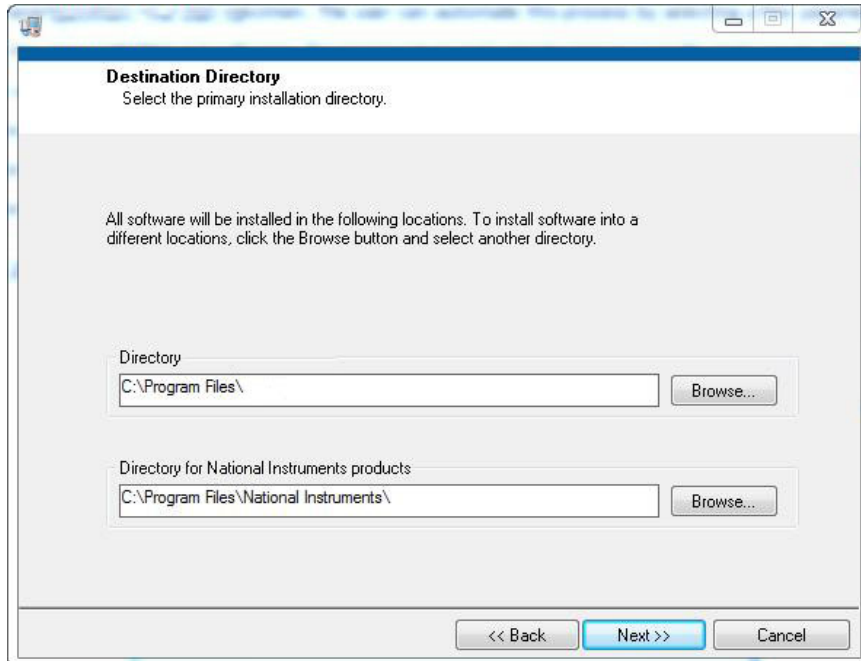

Figure 3 Software Installation
2. Select the destination directory for the software, see Figure 3.